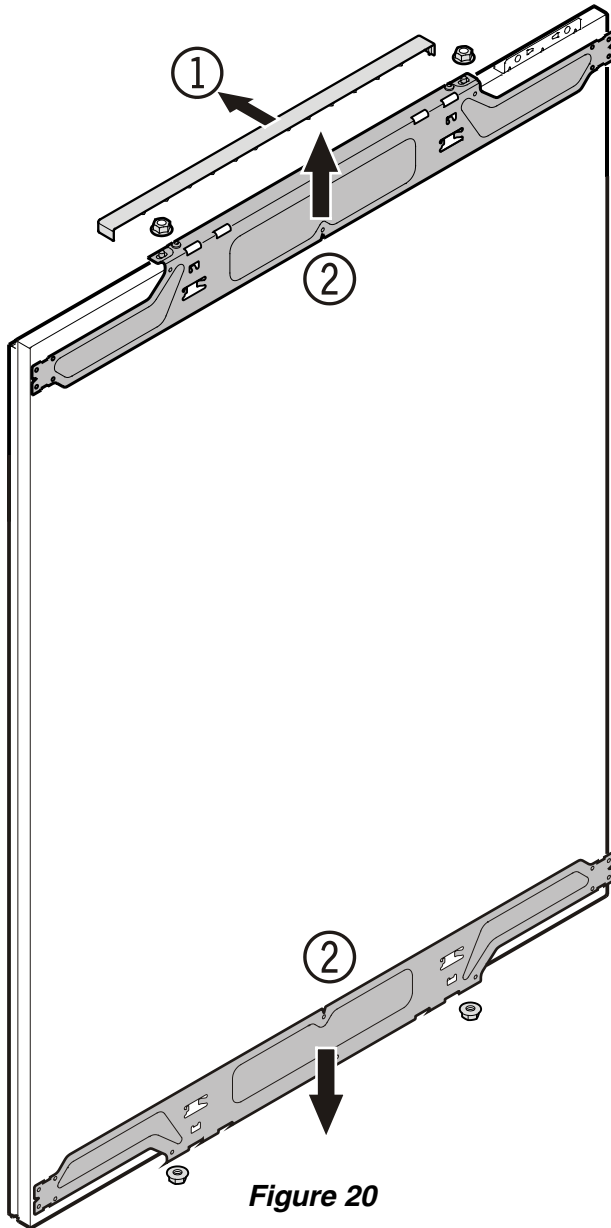

Figure 20
### - Figure 20
Remove cover ① and unscrew the upper and lower attachment bracket ② of the refrigerator door (**Figure 20**). These brackets will be mounted onto the refrigerator door panel.